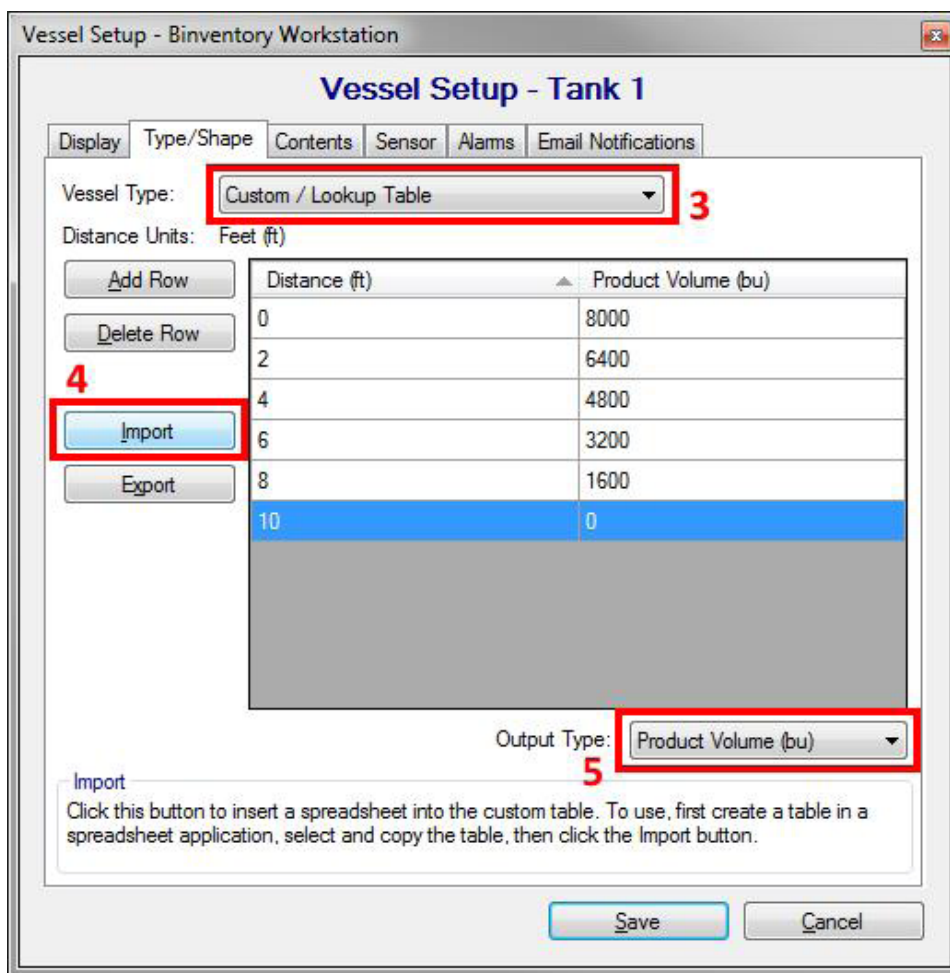

Figure 22
3. Referring to Figure 22, switch to Bininventory Workstation and select Custom / Lookup Table for the vessel type on the Type/Shape tab of Vessel Setup.